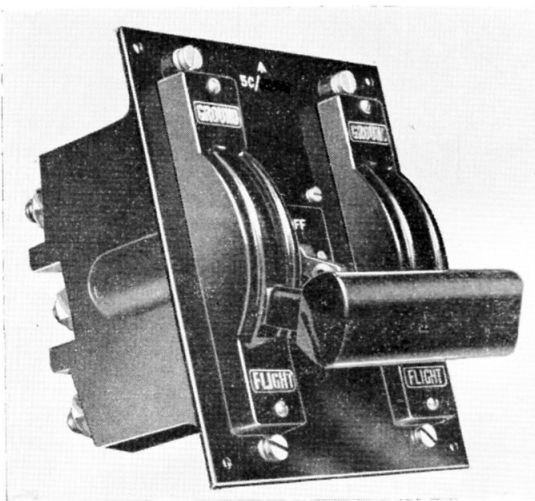

Fig. 1. Ground/flight switch, Type D
1. The ground/flight switch, Type D (fig. 1 and 2) is rated continuously at 120 amp. When in the GROUND position, the switch isolates the aircraft battery from the general